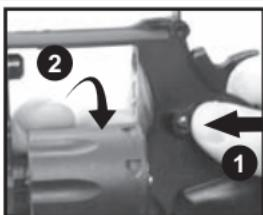

Fig. 8
- Make sure the airgun hammer is in the de-cocked position (Fig. 8).
- Press the cylinder release button and push the cylinder from the right side to swing it out (Fig. 8).